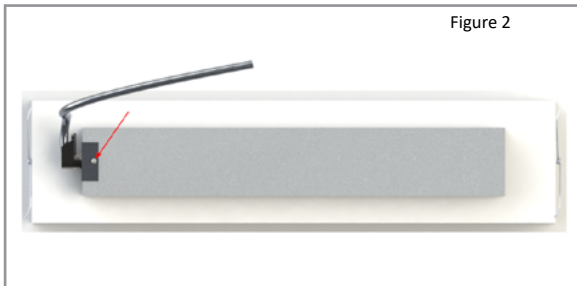

Figure 2
- Using a Phillips screwdriver, remove the screw holding the flex-conduit bracket to the wiring box to expose quick connectors (*Figure 2*)